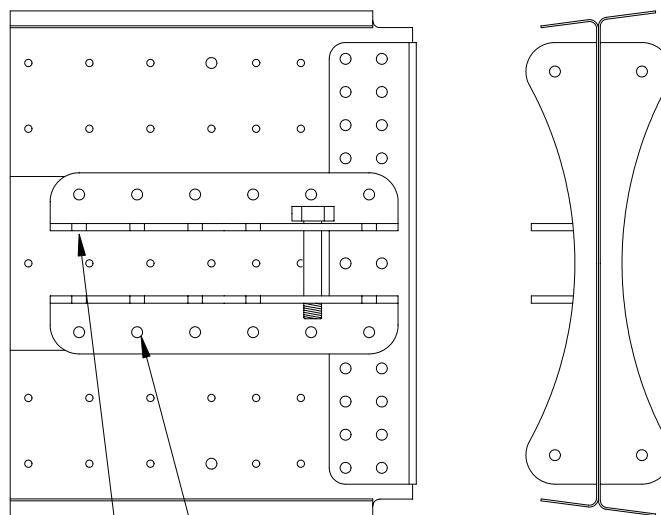

FIGURE 27
92) Drill out the 1/4" holes in the two FUS-360 tail spring anchors to 5/16". Cleco them over the packer and FUS-336 stab mount bracket. Use a 5/16" bolt for alignment as in Figure 27. Drill to #11.